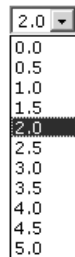

Figure 6-17 — RGB delay drop box
4. Click the RGB delay drop box. A drop down scroll box appears (figure 6-17).